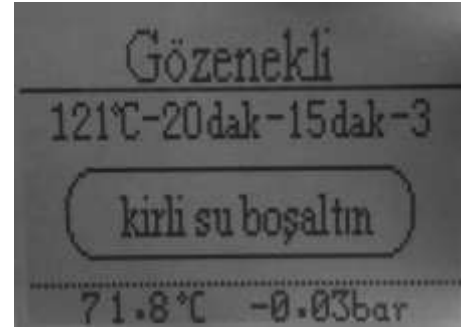

Figure 6.6.4
**If the used water tank is full**, the screen shown on the right is displayed and the control panel's screen flashes. (Figure 6.6-4).